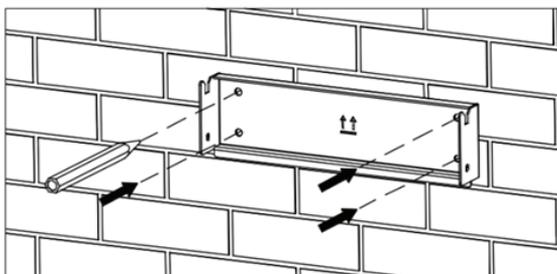

Figure 10 Determine the punch position
(1) Use the punch positioning plate in the packaging box to determine the punch position. As shown in Figure 10 Level the holes with a level ruler and mark it with a marking pen.